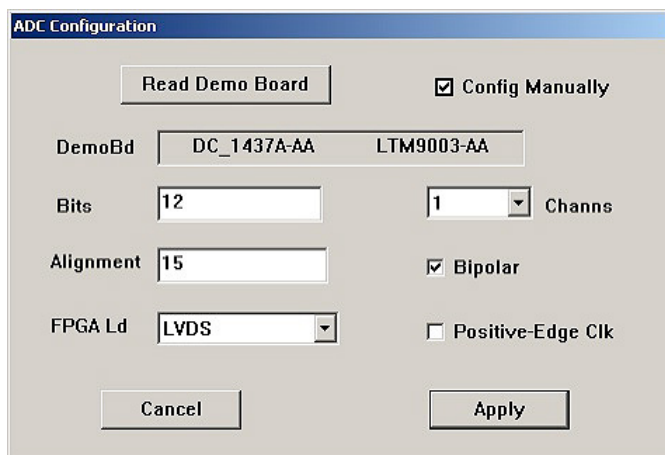

Figure 3. PScope Configuration Menu
4. The PScope software should recognize the DC1437B and configure itself automatically. See Figure 3 for the default configuration settings.